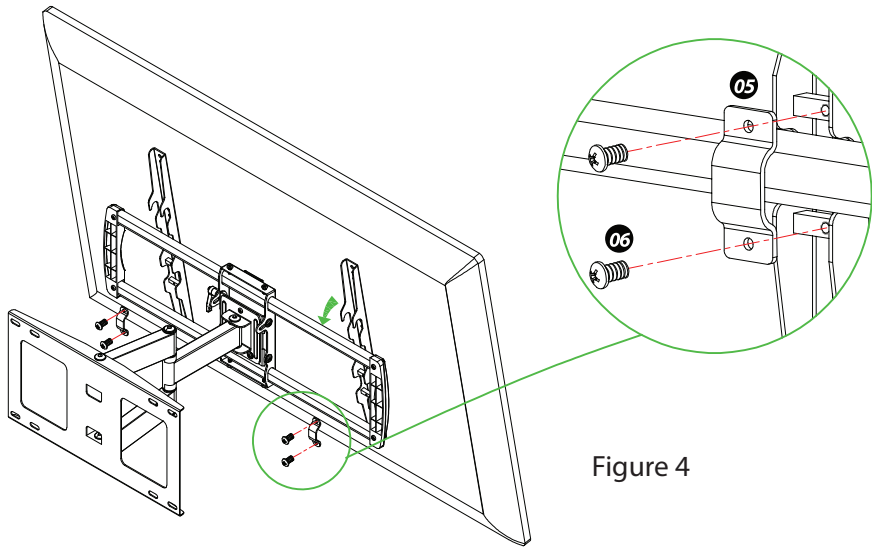

Figure 4
Step 3: Hang pre-assembled TV unit on the wall plate and attach tube clips 05 to the brackets using screws 06. (figure 4)